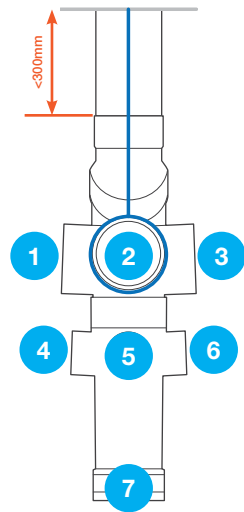

Figure 6
- 8.1.2.1** A 3-way rigid connection secured tightly to the moulded inlet at position (2) on the Converge aerator (see Fig. 6); or